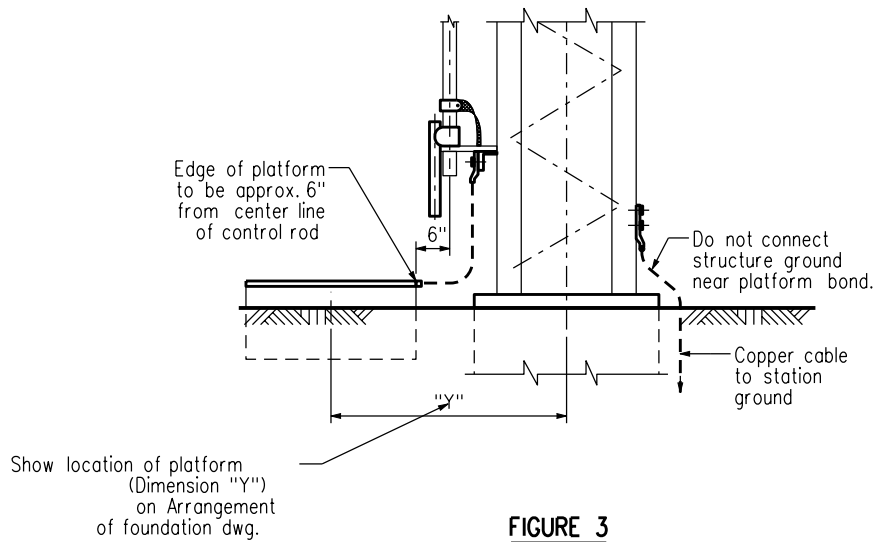

FIGURE 3
PROVIDE CONTINUOUS VISIBLE BONDING CONNECTION FROM OPERATING ROD(S) TO OPERATING PLATFORM. USE 250 KCMIL COPPER CABLE FOR BONDING. (SEE FIG 3 THROUGH FIG 7, THIS DRAWING).